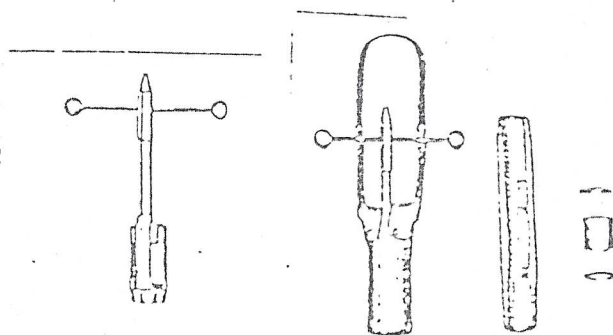

Fig. 4: Soil Sampler & Cylinders
- 4) The sample cylinder can be commonly used for not only the actual volumeter but a soil pF measuring apparatus and a soil permeability measuring apparatus; it has an inner diameter of 50 mm, a height of 51 mm, and the inner capacity of 100 ml; it is made of metal and has the weight of about 80 g. For collecting the soil in nature, a soil sampler(optional parts) is used. (Refer to Fig.4)